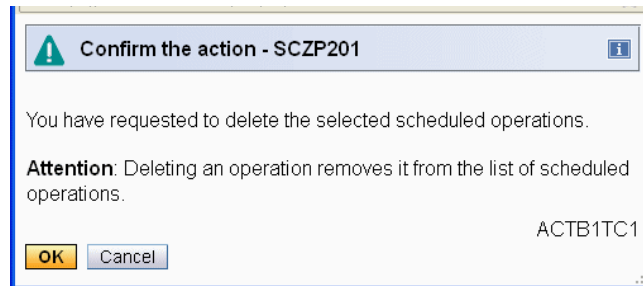

Figure 1-75 Delete scheduled operation confirmation
4. On the "Confirm the action" panel click **OK** (Figure 1-75 on page 46).